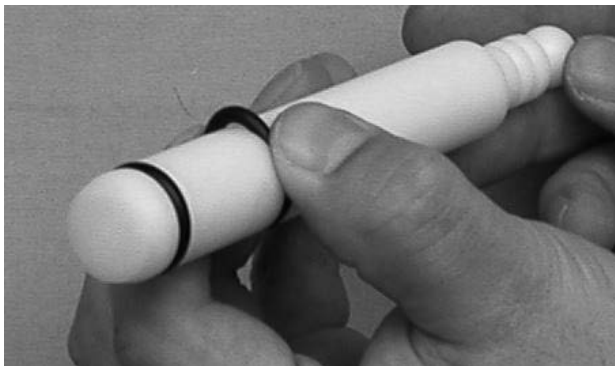

Figure 3-4 Removing O-Ring
5. Remove all o-rings from parts by first wiping off the lubricant using a clean towel. Then squeeze the o-ring upward to form a loop (Fig. 3-4). Roll the o-ring out of the groove.